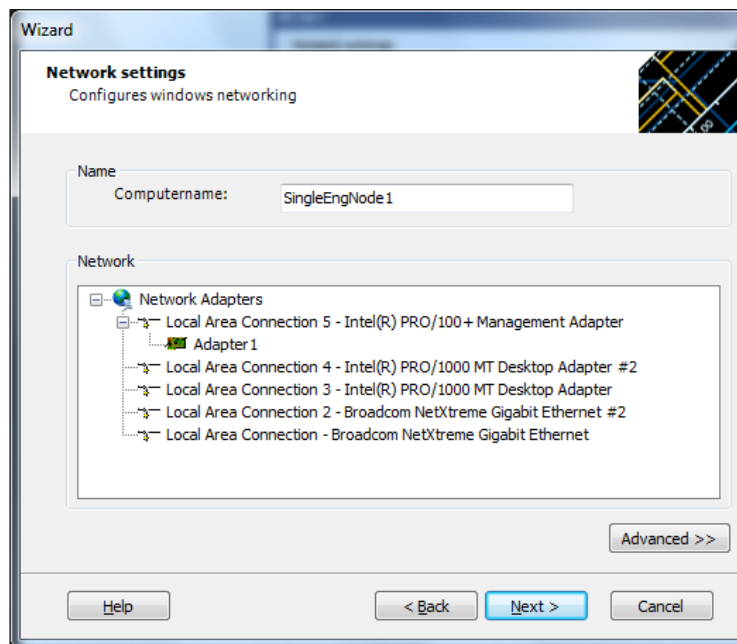

Figure 34. Network Settings Dialog Box (Simple View)
2. Select the network adapter to be configured. Use the Simple View of the Network Settings dialog box (Figure 34) to: